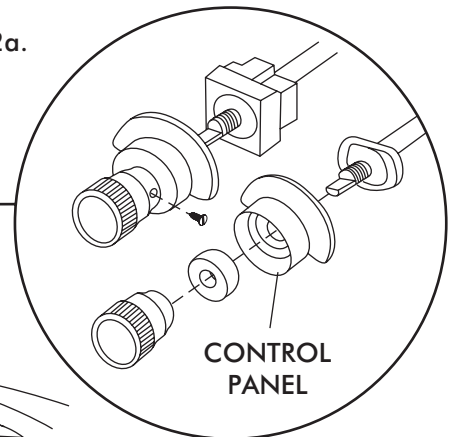

FIGURE 2a
- REMOVE OEM CONTROL KNOBS AND BEZELS (RETAIN) SEE FIGURE 2a.